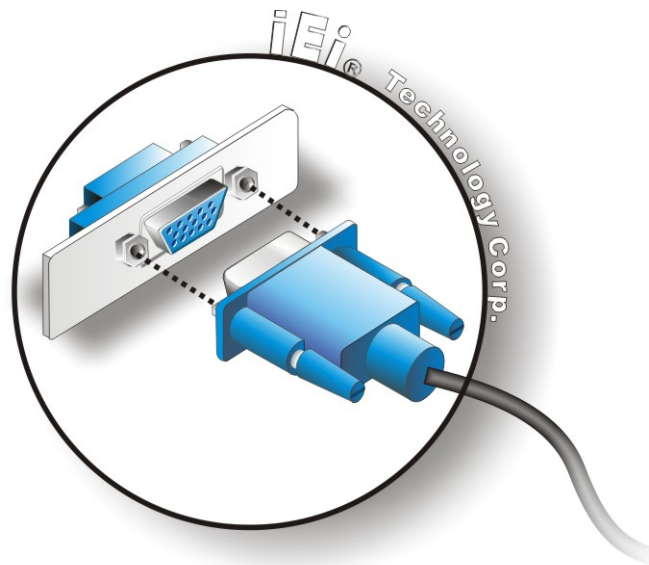

Figure 4-18: VGA Connector
- Step 3:** **Insert the VGA connector.** Once the connectors are properly aligned with the insert the male connector from the VGA screen into the female connector on the KINO-QM57A. See **Figure 4-18**.